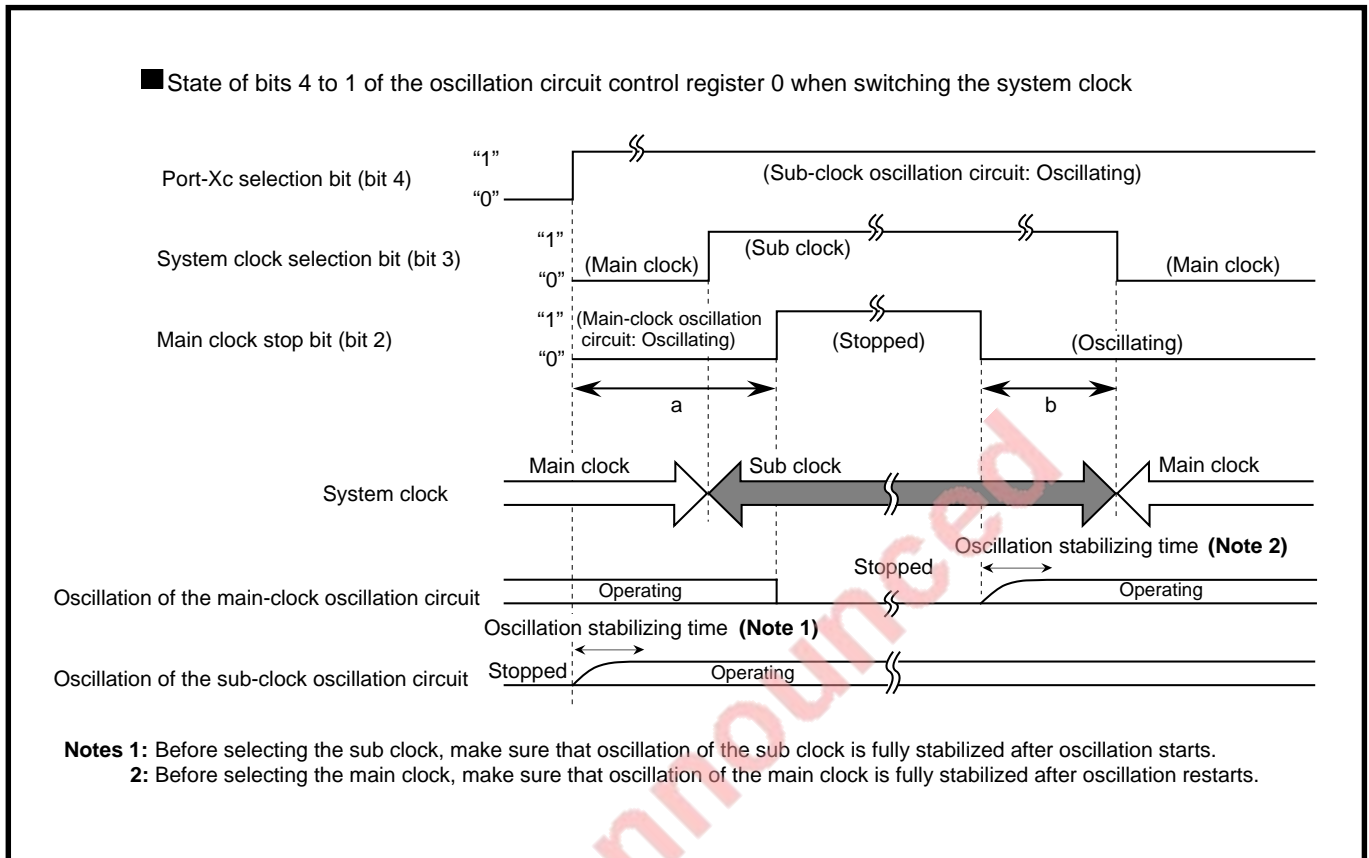

Fig. 14.3.6 System clock switching procedure (1)
After the sub clock is selected as the system clock, the main-clock supply is stopped/restarted by the main clock stop bit (bits 2 at address 6C16). (Refer to **Figures 14.3.6 and 14.3.7**.)
Furthermore, a sub clock can be the system clock by specifying the system clock selection bit after the oscillation is stabilized. (Refer to **Figure 14.3.6**.)
Figures 14.3.6 to 14.3.8 show the system clock switching procedure.
- System clock switching procedure in order to select the main clock as the system clock when the main clock supply stops. (Refer to “b” in Figure 14.3.6.)